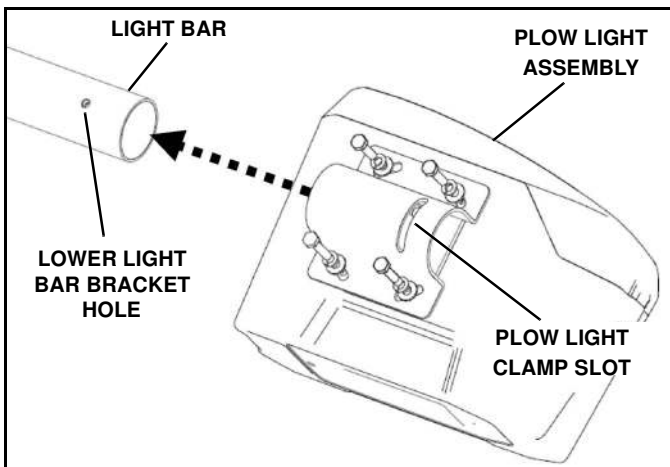
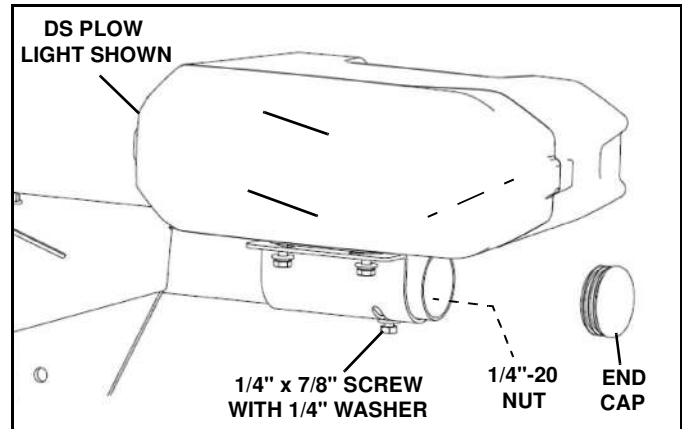

Figure 1-17
Figure 1-18
16. Slide the plow lights onto the respective ends of the light bar bracket, aligning the hole in the bottom of the bracket with the slot in the plow light clamp (See Figure 1-17).
17. Install a 1/4" x 7/8" screw with 1/4" washer through each clamp and light bar and loosely secure with a 1/4"-20 nut (See Figure 1-18).
20. Aim plow lights with plow in the fully raised position. Lock the lamps in the adjusted position by tightening four 1/4" x 7/8" horizontal adjustment screws and one 1/4" x 7/8" vertical adjustment screw and 1/4" nut securely (See Figure 1-17 and Figure 1-18).
21. Install an end cap in each end of the light bar (See Figure 1-18).